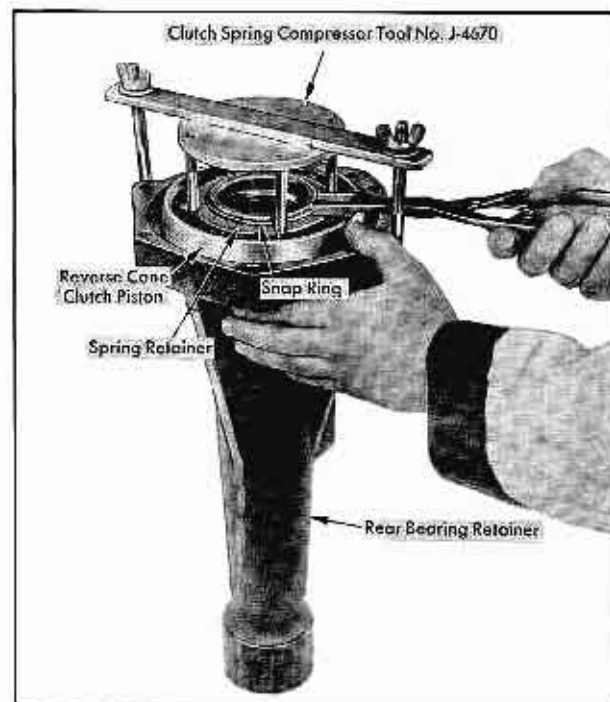

Fig. 14-37 Removing Clutch Release Spring Retainer
9. With Tool No. J-4670-A, compress clutch release coil springs and remove large snap ring. Fig. 14-37.